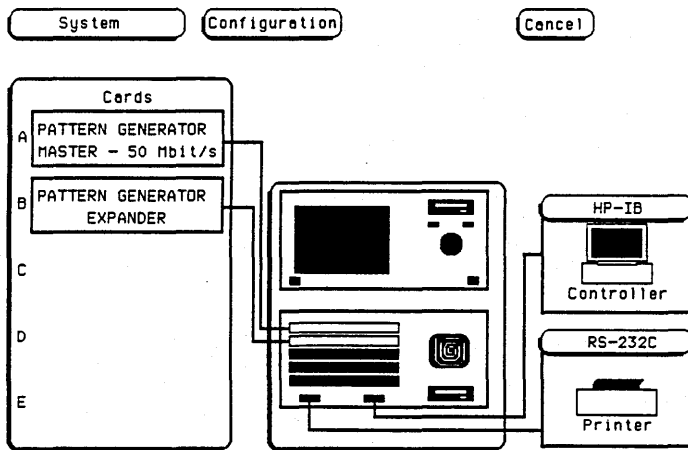

Figure 4-4. Startup Screen
- d. From the startup screen shown in figure 4-4, touch the following fields in order: